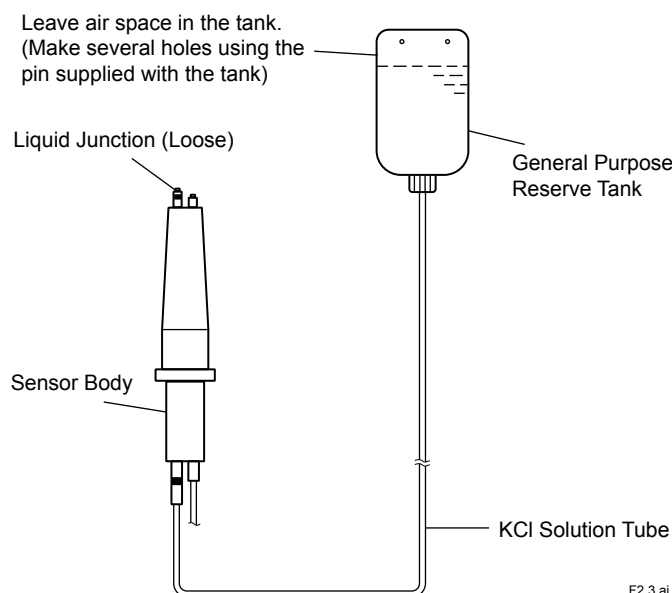

Figure 2.3 Supplying KCl Solution to Sensor Body
- (1) Connect the sensor cable to the associated instrument correctly by referring to Section 2.3 provided later.
- (2) Mount the liquid junction in the sensor body. Peel off the seal attached to the liquid junction mounting hole in the sensor body. Screw the liquid junction gently two or three turns into the hole.
- (3) If specified, a reserve tank containing 250 mL KCl solution and mounting hardware to hold this tank are supplied with the PH8EFP pH sensor. Attach the holding hardware to the pipe (nominal diameter 50 mm). Connect the reserve tank to the KCl solution supply tube of the sensor. Remove the cap from the tank and screw the tube connector securely into the tank.
- (4) Supply KCl solution to the sensor (see Figure 2.3). First, mount the reserve tank on the mounting hardware with the tube connection part directed downwards. Using the pin supplied with the tank, make several holes at its top (see Figure 2.3). Stand the sensor upside down at a lower position than the reserve tank as shown in Figure 2.3 so that KCl solution flows from the tank into the sensor. When the KCl solution fills the sensor and overflows from the liquid junction mounting hole, securely screw the liquid junction into the mounting hole.
- (2) Connect the sensor cable to the associated instrument correctly by referring to Section 2.3.
- (3) Mount the liquid junction in the sensor body. Peel off the seal attached to the liquid junction mounting hole on the sensor body. Screw the liquid junction gently two or three turns into the hole.
- (4) If specified, a reserve tank containing 250 mL KCl solution and mounting hardware to hold this tank are supplied with the PH8EFP pH sensor. Attach the mounting hardware to the pipe (2-inch). Connect the reserve tank to the KCl solution supply tube of the sensor. Remove the cap from the tank and screw the tube connector securely into the tank.
- (5) Supply KCl solution to the sensor. First, mount the reserve tank on the mounting hardware with the tube connection part directed downwards. Using the pin supplied with the tank make several holes in its top (see Figure 2.3). Stand the sensor upside down at a position lower than the reserve tank as shown in Figure 2.3 so that KCl solution flows from the tank into the sensor. When the KCl solution fills the sensor and overflows from the liquid junction mounting hole, securely screw the liquid junction into the mounting hole.
First, mount the reserve tank on the holding hardware with the tube connection part directed downwards. Using the pin supplied with the tank, make several holes in its top (see Figure 2.3). Stand the sensor upside down at a position lower than the reserve tank as shown in Figure 2.3 so that KCl solution flows from the tank into the sensor. When the KCl solution fills the sensor and overflows from the liquid junction mounting hole, securely screw the liquid junction into the mounting hole.